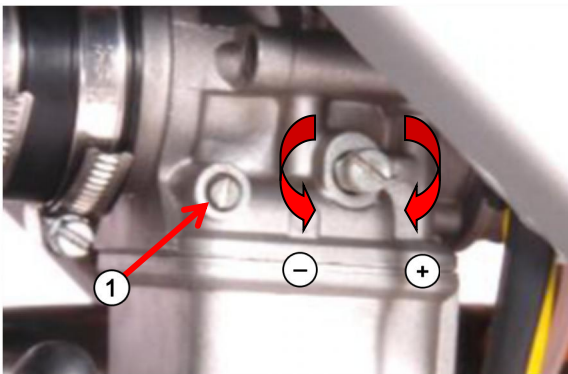

Fig. 2
8. The idle screw looks just like the adjusting screw in Fig. 2. Only in different locations